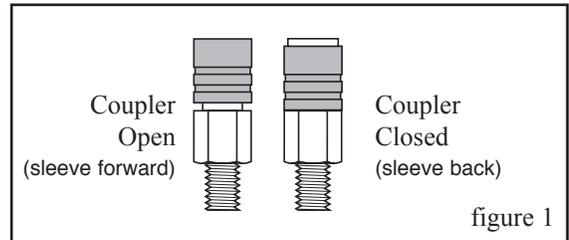

figure 1
Caution: Couplers must be in the open position before connecting with pull studs. See figure 1. Coupler damage will result from improper set-up.
4. Connect shop air lines to the pneumatic fittings that feed the FasTie couplers. **Couplers must be in the open position (see figure 1) before connection to pull studs, otherwise coupler damage will occur.**
5. Connect shop air lines to the pneumatic fitting for the coupler. **Coupler must be in the open position (see figure 1) before connection to the pull stud, otherwise coupler damage will occur.**